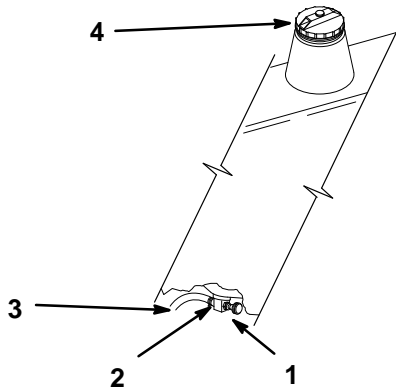

Figure 26
2. Close fuel shut-off valve at fuel tank (Fig. 26).
6. Open fuel shut-off valve at fuel tank (Fig. 26).
3. Loosen the hose clamp and slide it up the fuel line away from the fuel shut-off valve (Fig. 26).
4. Pull the fuel line off fuel shut-off valve (Fig. 26). Open fuel shut-off valve and allow gasoline to drain into a gas can or drain pan.
5. Install the fuel line onto the fuel shut-off valve. Slide the hose clamp close to the fuel shut-off valve to secure the fuel line (Fig. 26).